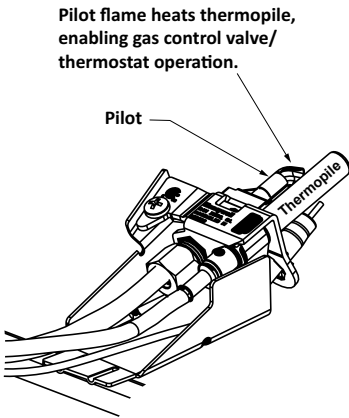

Figure 2.
- When heated by the pilot and connected to the Honeywell control, the thermopile generates at least 350 millivolts (closed circuit). This voltage opens the power head in the control, allowing gas to flow. It also powers the onboard diagnostics (status light). See Figure 2.